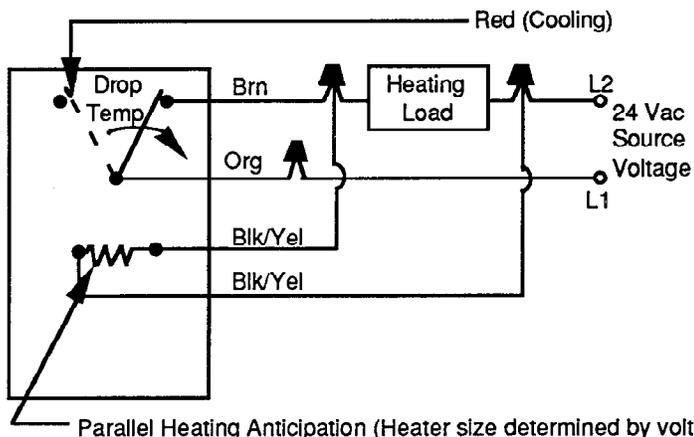

Figure 7. TC-110X-500 Typical of Parallel Heat Anticipation
2. Make electrical connections to thermostat. (Typical heat anticipation and night depression wiring diagrams are shown in Figures 7 through 9.)
HEAT ANTICIPATION (See Figures 7 and 8)